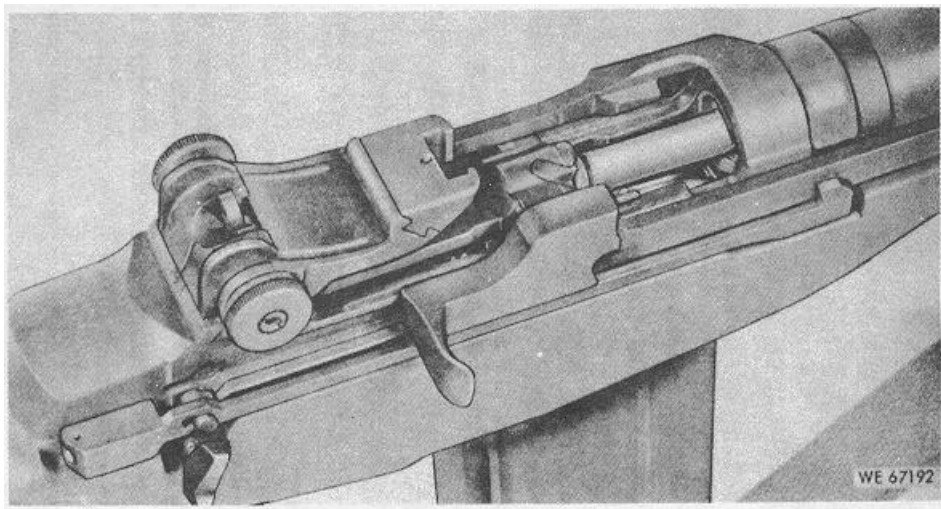

Figure 2-9. Extracting cartridge case from chamber.
no more gas can enter the piston. The remaining gas in the barrel follows the bullet out of the muzzle. There is about three-eighths of an inch rearward movement of the operating rod before unlocking begins. This is a safety feature to insure that all the unneeded gas has escaped through the barrel before unlocking begins. After the operating rod has moved this short distance, the camming surface inside its hump forces the bolt roller upward, disengaging the locking lugs on the bolt from the locking recessed in the receiver. The unlocked bolt is now ready to move forward (fig. 2-9). Any gas that is left in the gas cylinder or piston after the bolt is fully to the rear escapes through the lower gas port in the cylinder.
(6) *Extracting.* Extracting is pulling the empty cartridge case from the chamber. As the bolt unlocks, slow initial extraction takes place. As the bolt moves to the rear, it pulls the cartridge case with it (fig.2-9).